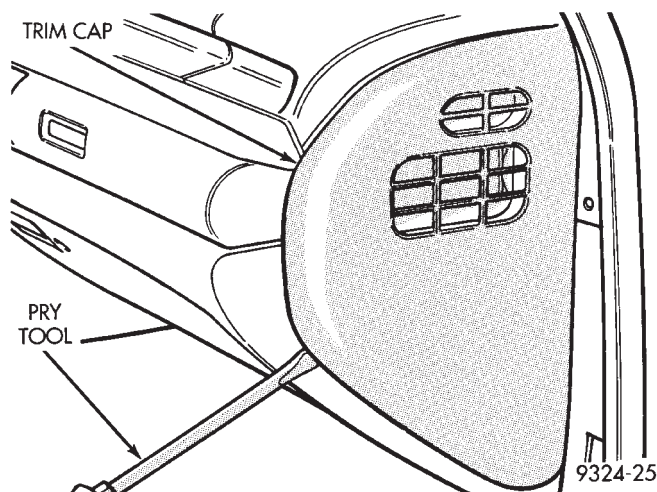

**Fig. 53 Right Side Bezel Removal**
(7) Remove the three retaining nuts from the studs. These studs project through the dash panel into the engine compartment.
(8) Remove right and left instrument panel end caps. These caps are held in place by a series of clips.
(9) Remove right and left interior door post kick panel.
(10) Remove right side bezel from instrument panel (Fig. 53).